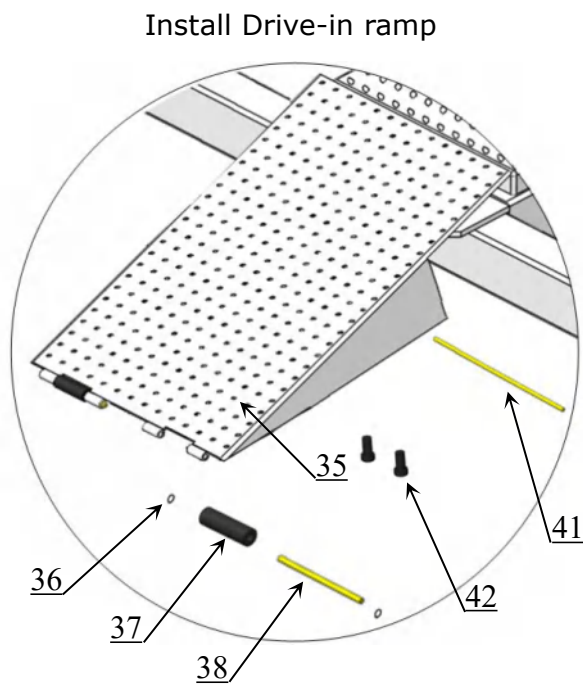
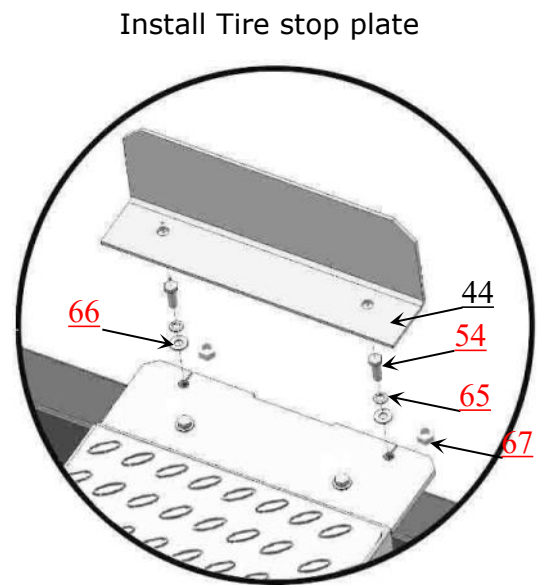

Fig. 42
Fig. 43
P. Install Drive-in ramp, Tire stop plate. (See Fig. 42, Fig. 43)